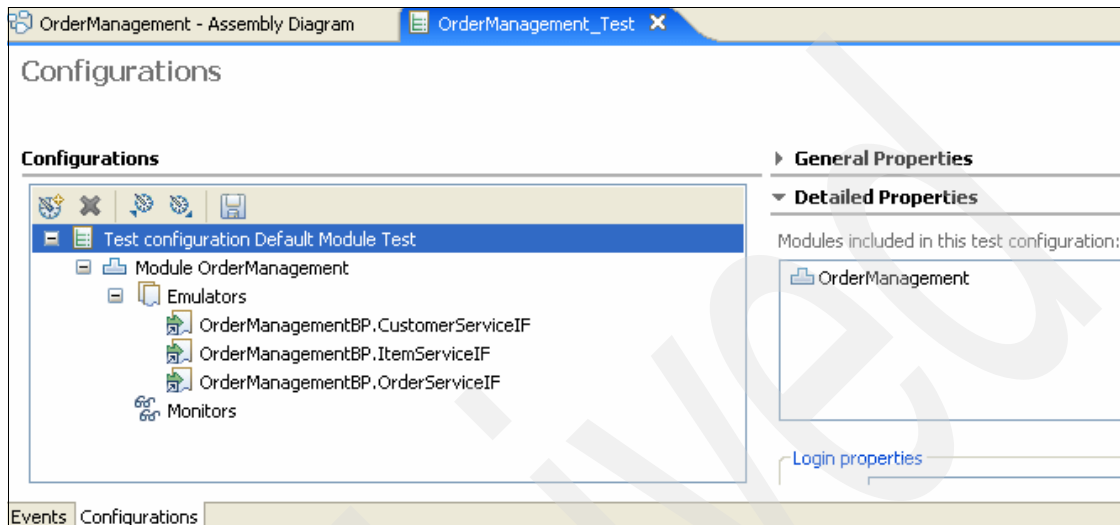

Figure 3-47 Integration test client's Configuration
3. Switch to the Configurations tab to see the emulators that are defined (Figure 3-47). By default, if you do not have a reference wired to a component, the integration test client sets those endpoints automatically as emulated.